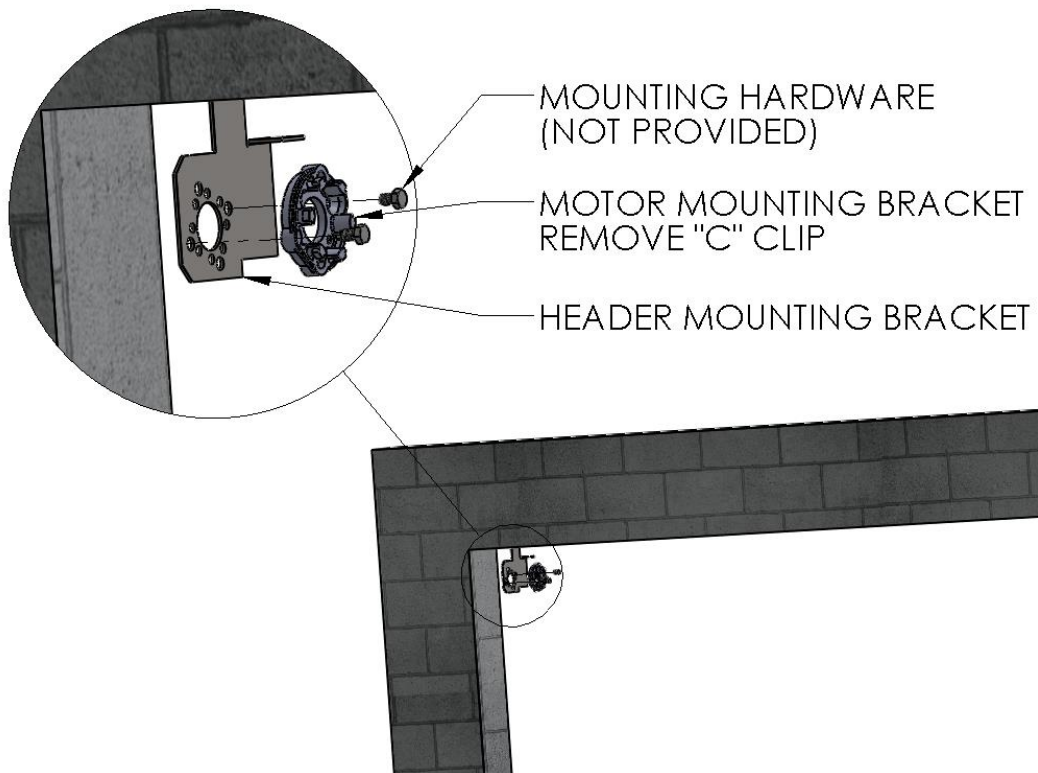

Figure 4 MOUNT MOTOR & HEADER BRACKETS
4. Install your hardware through the Motor Mounting Bracket then through the Header Mounting Bracket into the mounting surface. (Figure 4 MOUNT MOTOR & HEADER BRACKETS)